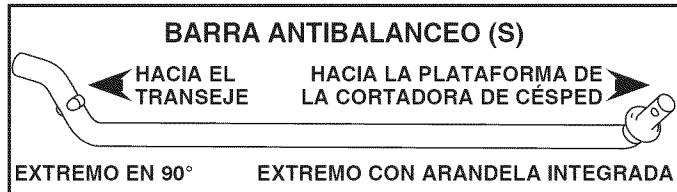

Fig. 9
- 5. SI LA TIENE, INSTALE LA BARRA ANTIBALANCEO (S) (Vea Fig. 9 - 11)**